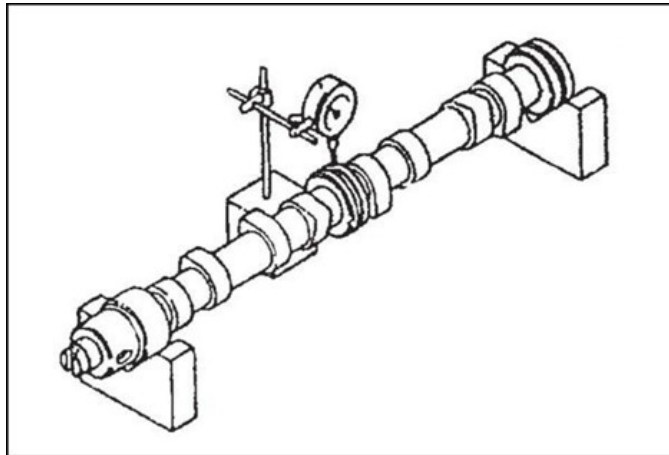

Figure 128.
1. Use V-blocks and a dial indicator to check camshaft bend (Figure 128). Place the indicator on the center bearing journal.